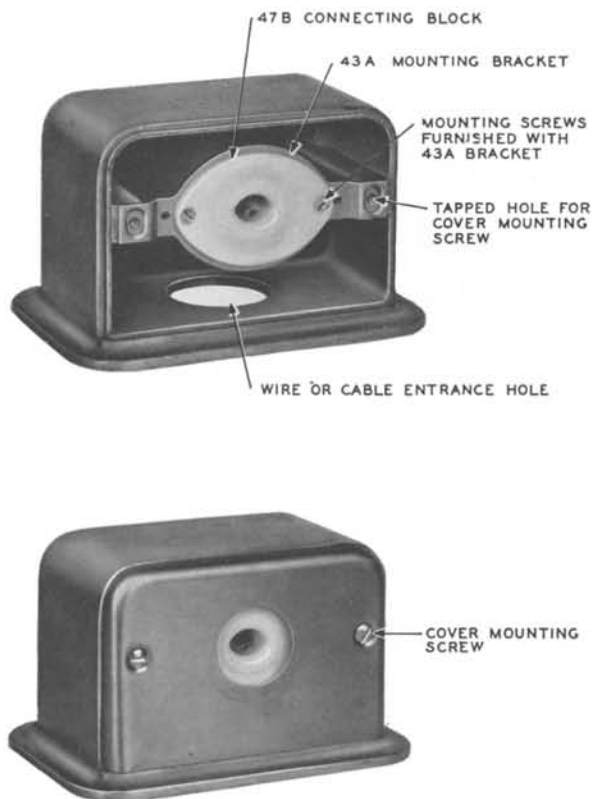

FIG 4—EXAMPLE B—47B CONNECTING BLOCK MOUNTED IN FITTINGS OF UNDERFLOOR DUCT SYSTEM
5.04 In typical customer-provided underfloor duct system fittings, the connecting block may be mounted as shown in Fig. 4, Example B.